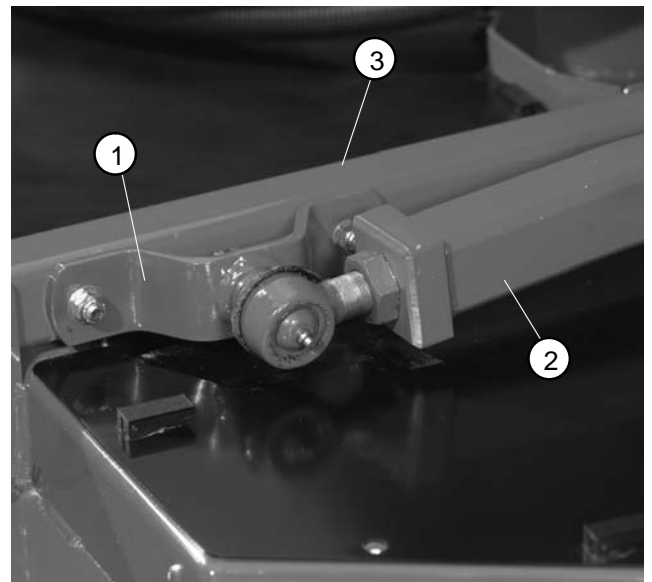

Figure 4
4. Remove cap screws, washers, and lock nuts securing ball joint mounts to front deck castor arms (Fig. 4).
3. Align ball joint mounts to front deck castor arms and secure with cap screws, washers, and lock nuts (Fig. 4).